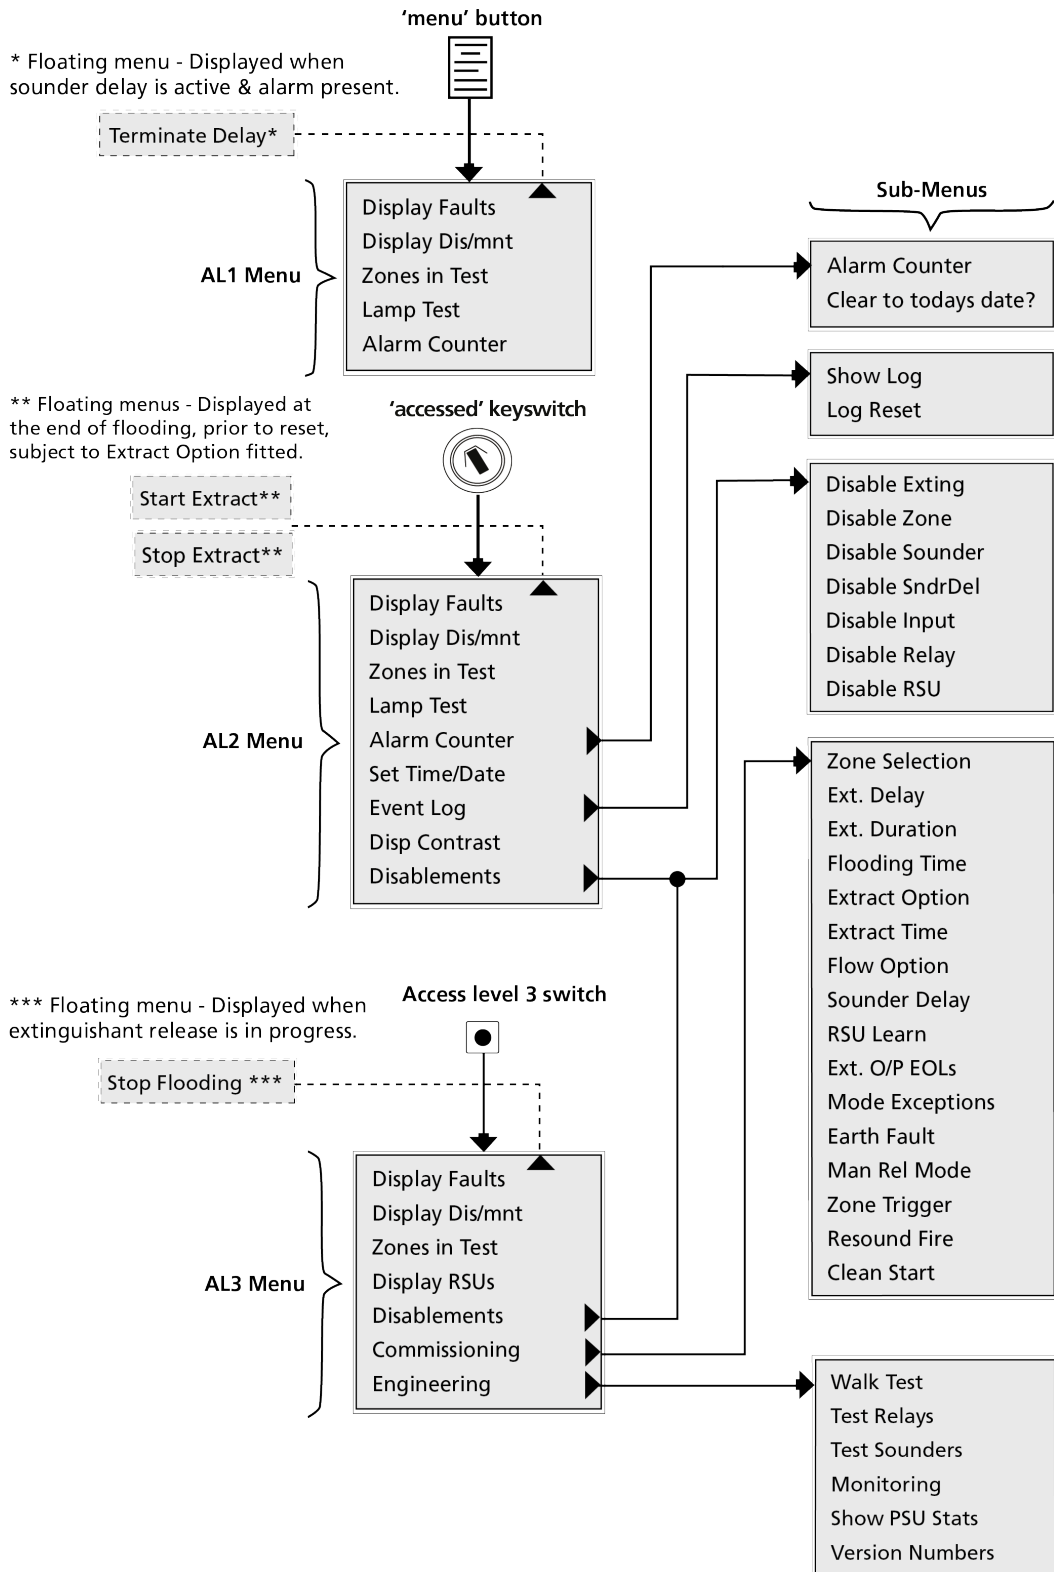

Figure 1 : Overview of Access Level Menus
- Pushbutton and keyswitch entry to three access levels. See Figure 1, below.